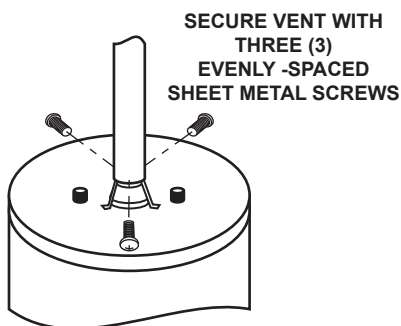

Figure 31: Securing the Flue to Vent Reducer
7. Fit the bottom opening of the pipe over the top opening of the flue reducer. See Figure 31. Ensure that there is no gap and that the seal is complete.
8. Secure the flue pipe to the reducer with three (3) evenly-spaced sheet metal screws (Figure 31). **Do not leave any open holes in the flue reducer or flue pipe.**